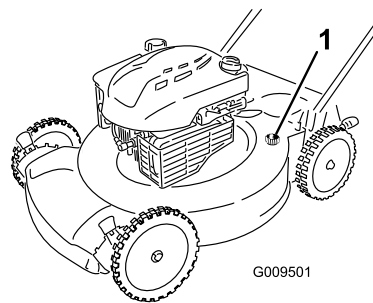

Figure 24
4. Attach a garden hose that is connected to a water supply to the washout port on the mower housing (Figure 24).